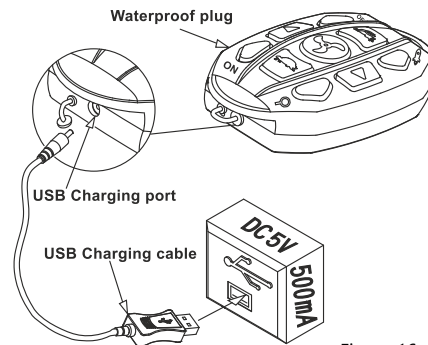

Figure 16
2. The hand remote can on average be used continuously for 48 hours. You can have the remote plugged into a USB charging port (if your vessel has one fitted) and still use the remote to command the Cayman motor. (Fig. 16)